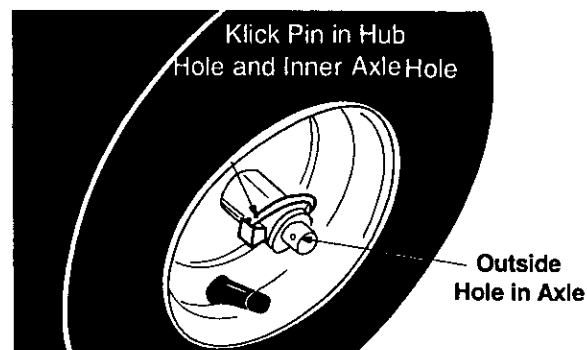

Figure 21
- The wheels may be adjusted for two different methods of operation. Follow the steps below for adjustment. See Figure 21.
- Rotate wheel assembly to align hole in the hub with the inner hole on the axle shaft. Insert klick pin in the hole. Outer axle shaft hole should be visible. See Figure 21.